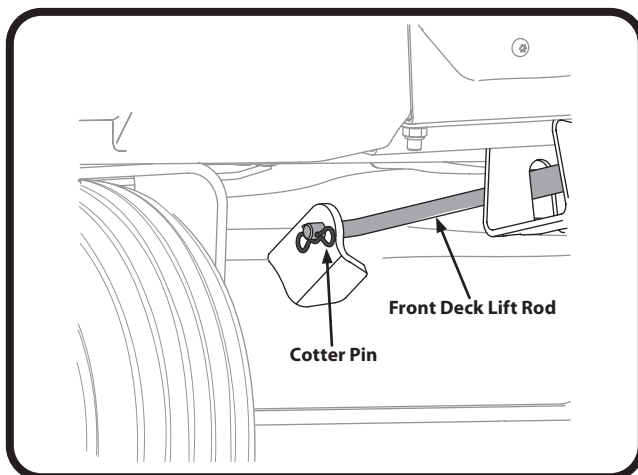

Figure 7.2
7. Pull the cotter pin out of the front deck lift rod, that secures it to the deck. Slide the deck lift rod out of the front hanger bracket. See Figure 7.2.